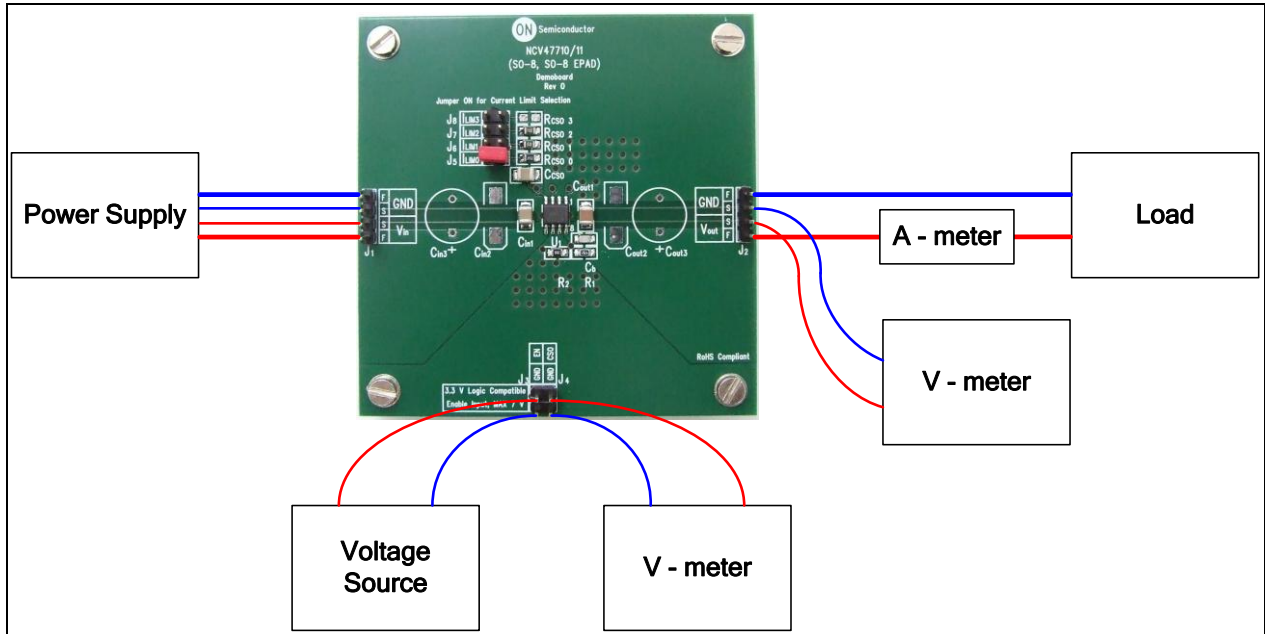

Figure 1. Test Setup
1. Connect the test setup as shown in **Figure 1**. See **Table 1** with required equipment.